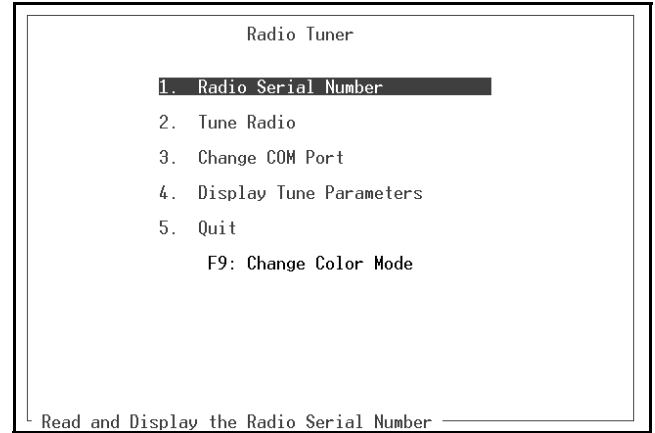
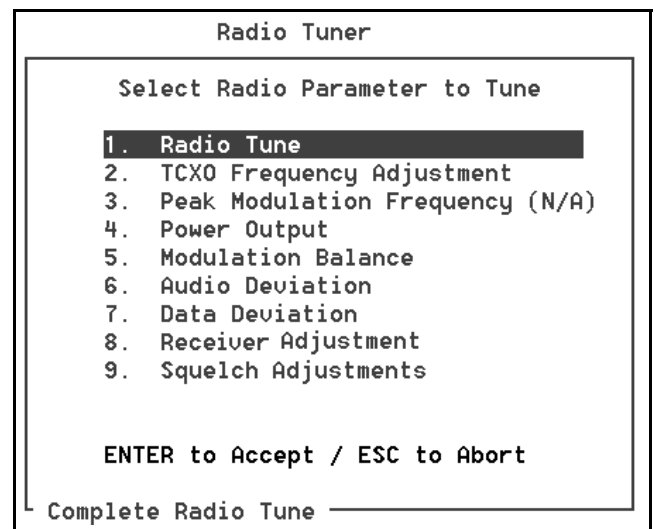

Figure 7-2 Tune Program Opening Screen
Figure 7-3 Radio Tuner Menu
To start the program from DOS, make the directory of the program the current directory and type PLATTUNE. From Windows 95, double click the shortcut icon for the program if one has been created. The opening screen is shown in Figure 7-2. Use the arrow keys or the indicated number keys to highlight the desired function and then select it by pressing the
2. Tune Radio - Displays the Radio Tuner menu shown in Figure 7-3. Refer to Section 7.2.4 for more information on the functions in this menu.
When transceiver alignment is to be performed, “Tune Radio” is selected in the Figure 7-2 screen as described in the preceding section. The screen in Figure 7-3 is then displayed.
2. The opening screen shown in Figure 7-2 is then displayed. From this screen select “Tune Radio” to automatically go from one adjustment to the next, or select the adjustments one at a time.